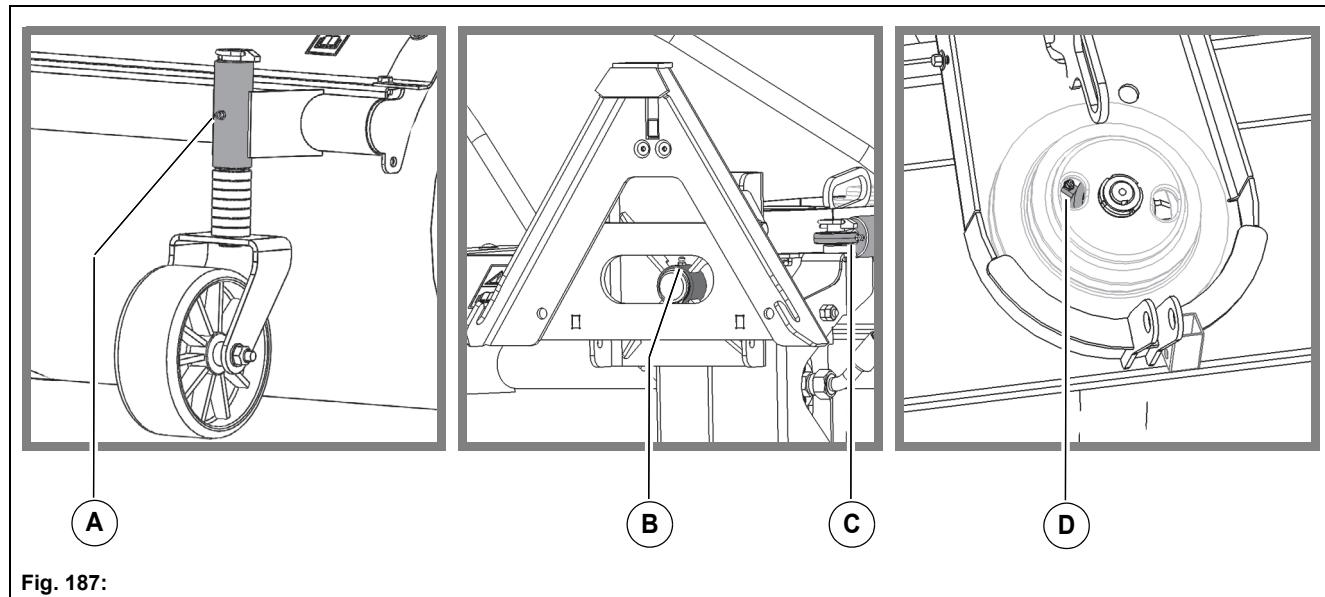

Fig. 187:
- Left/right supporting wheels (2 pcs.) **Fig. 187-A**
- Supporting tube on the coupling triangle (1 pc.) **Fig. 187-B**
- Rod eyes on the hydraulic cylinder (2 pcs.) **Fig. 187-C**
- Central drive shaft (2 pcs.) **Fig. 187-D**